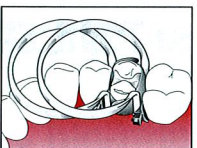

Figure 7
3. **Apply the G-Rings.** Place a ring with standard length tines on the mesial interproximal area. Secondly place a ring with long tines on the distal interproximal area (Figure 7).